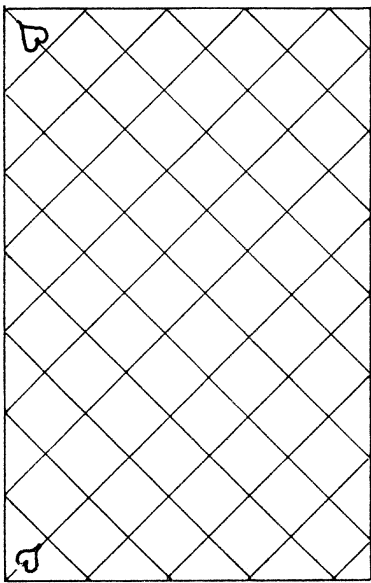

fig. 4
4. Starting at one end of the diagram (fig. 4, bottom left-hand corner), lightly trace your way around the layout until you reach an end. In this example you should cover all the lines in one non-stop journey (arriving at the top lefthand corner). If not, you have gone wrong. Check stages 2, 3 and 4.